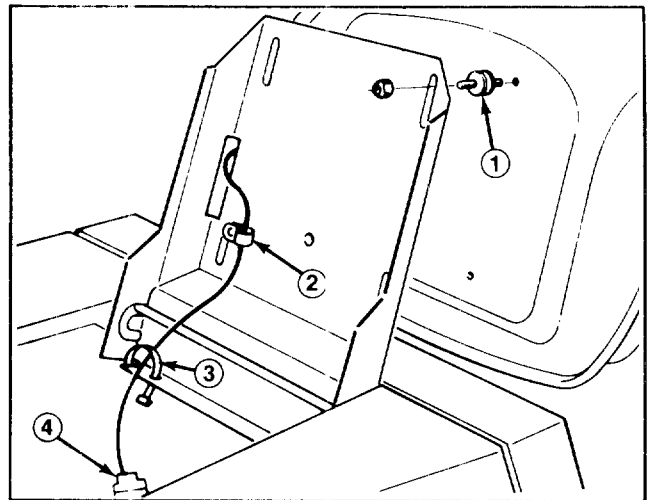

Figure 3
1. Thread (4) seat spacers into bottom of seat (Fig. 3).
2. Position seat onto seat base, inserting seat switch cable thru slot and spacer studs thru mounting holes (Fig. 3).
3. Slide wire clamp over seat switch wire (Fig. 3).
4. Using left rear spacer stud, loosely secure wire clamp and seat to seat base with a locknut (Fig. 3).
5. Mount seat to seat base with (3) remaining locknuts